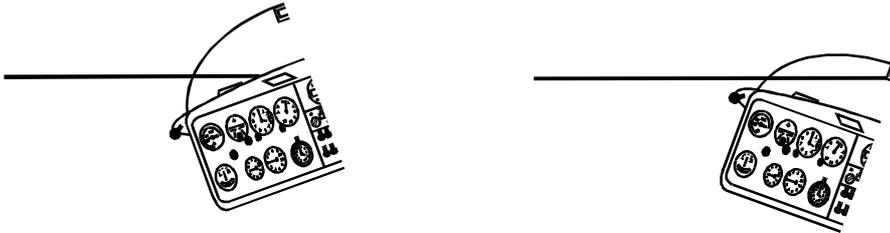

Fig 7. Turning attitudes - Left and Right.
- (1) Use co-ordinated controls to return to the straight and level attitude.
- (2) Once you have selected the straight and level attitude, lookout in the direction of the downgoing wing.
(3) Resume the normal scan for straight and level flight.
4. **Turning in the opposite direction.** In a side by side training aircraft such as the Vigilant, the view ahead is noticeably different when turning left compared to turning right, however in both instances the distance of the horizon above the speaker box will be similar. (See Fig 7). You will be taught to recognise and achieve a medium turn in both directions.